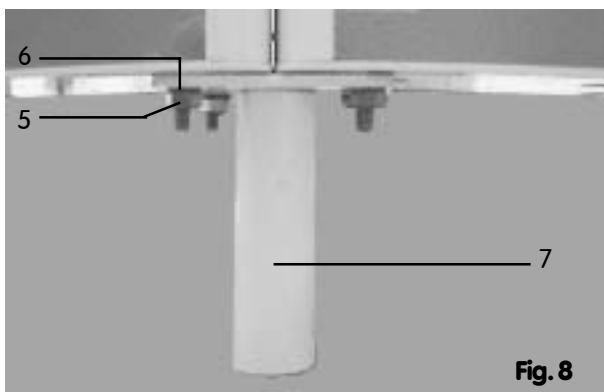

Fig. 8
Lift the element and place the lower right side on the installation plate of the stand foot (7) (Fig. 8).
For this step, you will need two M10 nuts (5) and 2 lock-washers (6) from the accessory pack (Fig. 8).